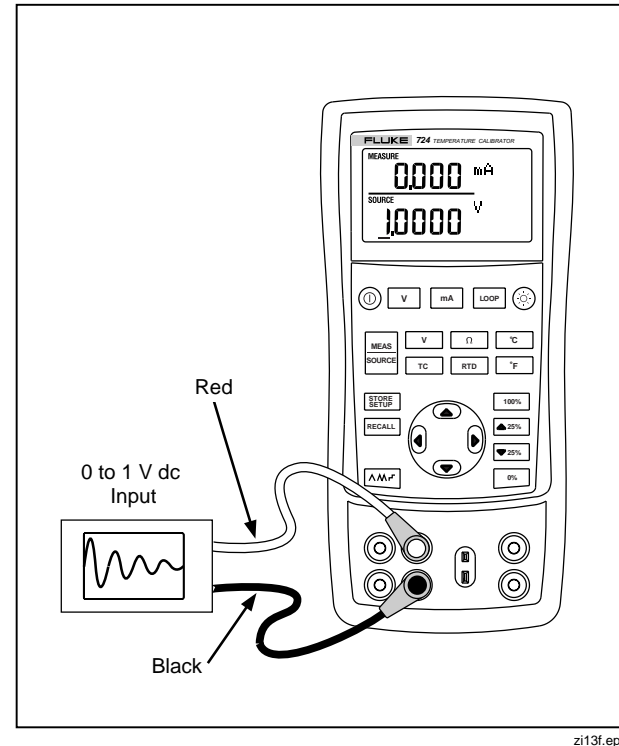

Figure 16. Calibrating a Chart Recorder
1. Connect the test leads to the instrument under test as shown in Figure 16.